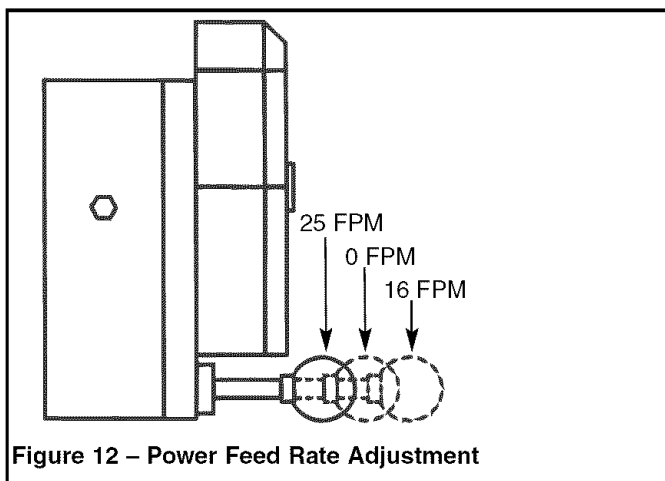

Figure 12 – Power Feed Rate Adjustment
- To engage power feed at low speed (16 FPM), pull engagement knob out away from planer (See Figure 12).
- To engage high speed (25 FPM), push engagement knob in all the way, towards planer (See Figure 12).
- The power feed system can be disengaged by placing the engagement knob in the middle or neutral position (See Figure 12).